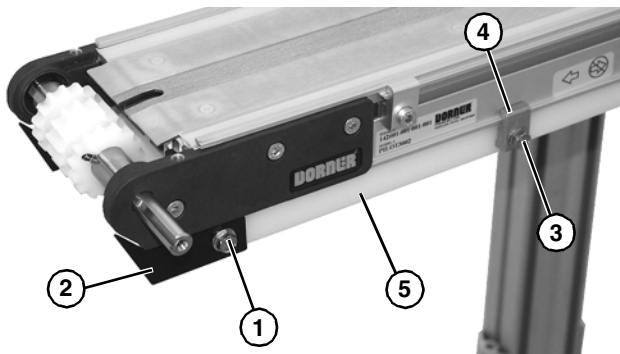

Figure 73
2. Remove screw (Figure 73, item 1) and sag guard plate (Figure 73, item 2).
3. Remove screw(s) (Figure 73, item 3) from each retaining clip (Figure 73, item 4), and remove lower wear strip (Figure 73, item 5).